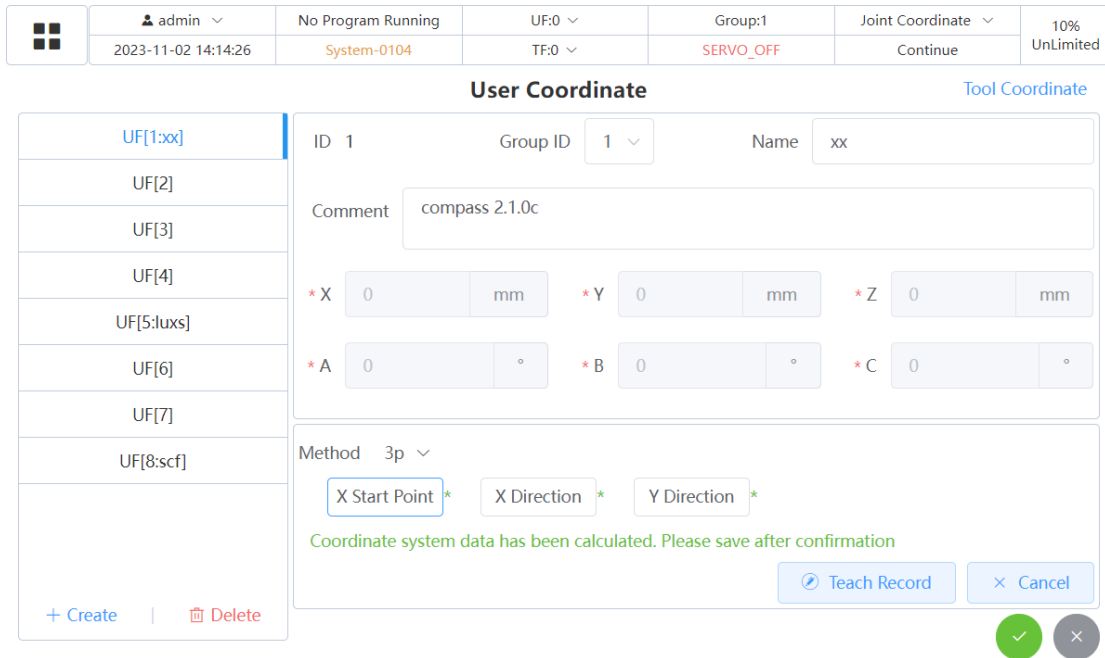

Fig. 2.27 3P Setting Window
2. Record the poses according to the description of the 3P/4P method. After all points are recorded, the user coordinate system can be automatically calculated, as shown in Fig. 2.27 “3P Method”/2.28 “4P Method”.